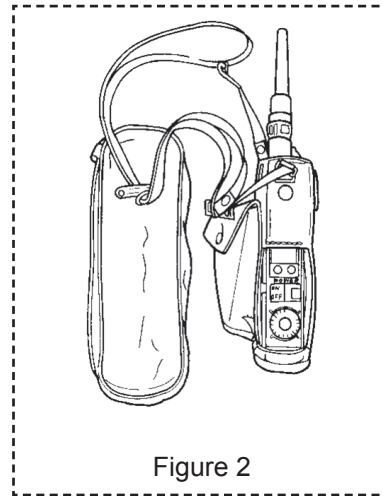

Figure 2
(2) Fuel tube connector leak check
- ❶ Open the liquid tube cock.
- ❷ Use a gas leak detector (Figure 2), soap solution, or the like to check that there is no leak from the fuel tube connector of the outdoor unit.